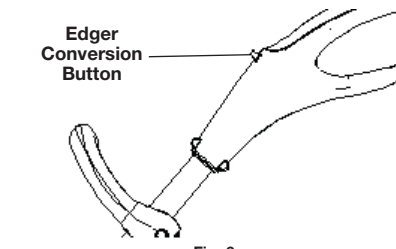

Fig. 6
2. Press the edger conversion button and rotate the rear handle until it locks in place (Fig. 6 and 7).